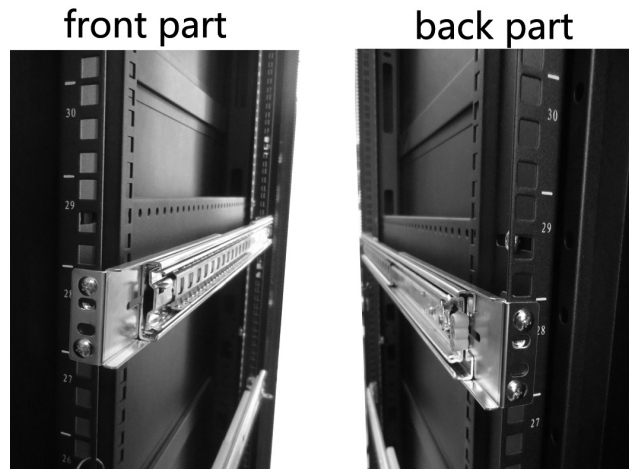

Figure 11
3. Collocate short adjustment sheet (located in the inner side of the cabinet angle hole position, one for front, the other for the rear) and fix the front and rear ends of the outer rail to the cabinet angle rail hole position using 4 round head M5*8 screws, two screws for both front and rear ends. **Please make sure the front and rear part of the outer rail horizontal, as shown in figure 11.**